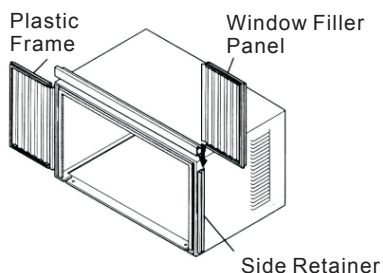
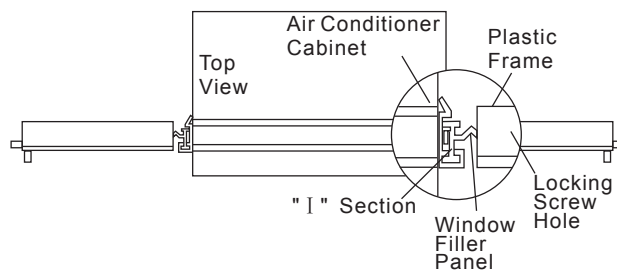

Fig. 9
Fig. 10
2. Slide "I" section of window filler panel into side retainer on the side of the cabinet (see Fig. 9 & Fig. 10).